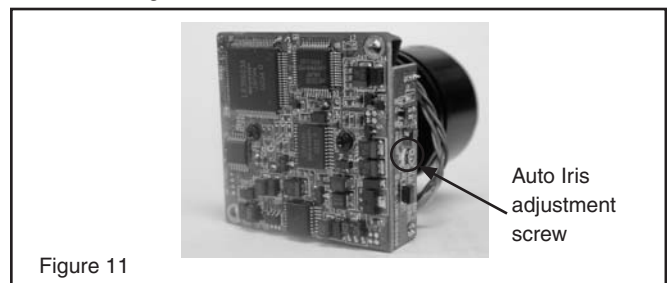

Figure 11
**FIXED AND FIXED VARI-FOCAL LENSES.** There are no user adjustable settings on these units (Figure 11)